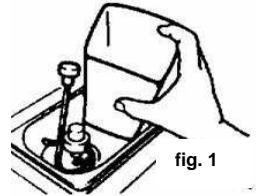

fig. 1
- Swing suction pipe up and remove cream container. (fig. 1)